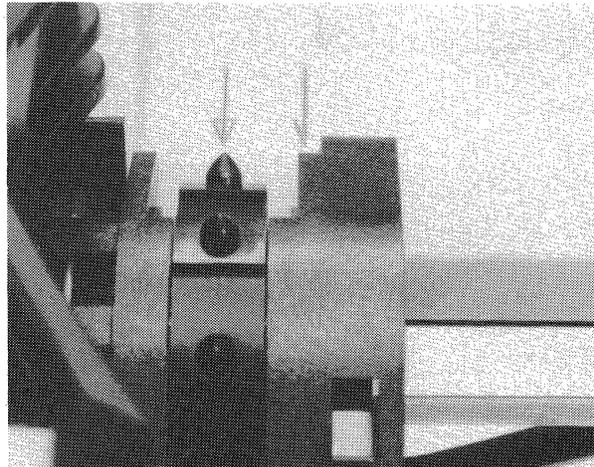
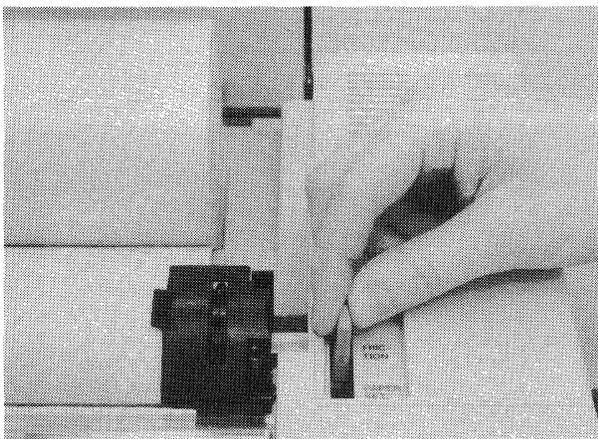

Figure 2-5B Left Tractor Alignment
**Figure 2-6A Roll Paper Through Tractor**
3. Align the sprocket pins with the full-headed arrow (Figure 2-5B) (the half-headed arrow is for roll paper). Lock the tractor lever.
2. Open the paper cover and position the sprocket pins to align with the half-headed arrow (see Figure 2-5B for details). Figure 2-6A shows proper alignment.
3. Set the paper roll into the roll tray, with the paper going under the roll and forward (Figure 2-6A). Now feed the paper over the mid-roller and tractors, down into the rear of the platen, just like sheet paper.